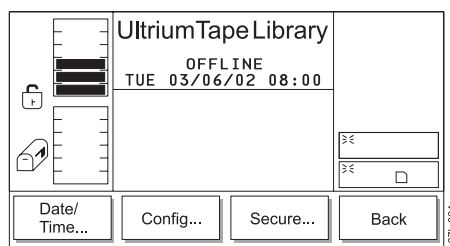

Figure 4-121. Utils Submenu
2. Press the button below the **Utils** softkey. The Utils Dialog displays (see Figure 4-121).